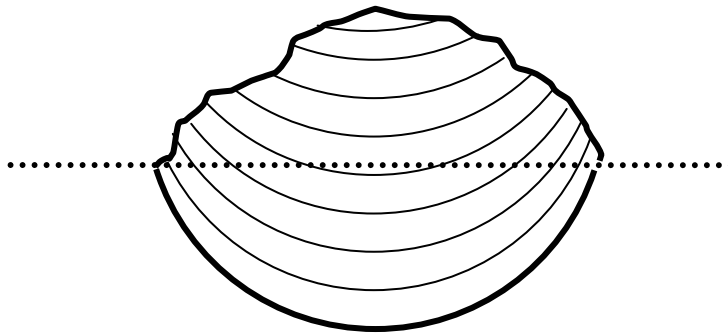

Figure 13 – Natural edge burl blanks yield more pieces if the blank is domed.
4. When selecting a burl for a natural edge nested set, try to find burls with domed tops as shown in Figure 13. By doing this, you can get more bowls from the blank. In the example shown, a flat blank (dotted line) yields a 4-piece nest, but the domed burl yields a 9-piece nest. Note that when doing this, you might be able to use the same knife radius for all cuts as shown here.